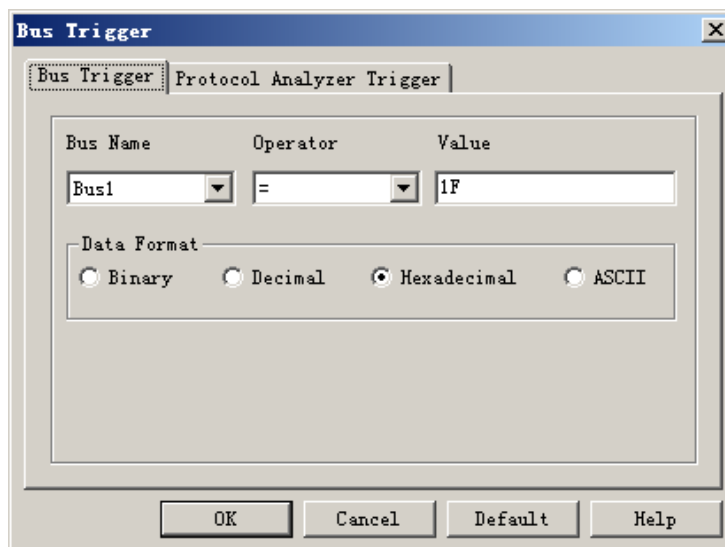

Fig 4-30 – Bus Trigger Setup
1. Highlight the Bus which will be triggered then click  icon or select **Bus Trigger Setup** from the Trigger of the Menu Bar, the dialog box as shown in Fig 4-30 will appear.
2. Set Binary, Hexadecimal, Decimal or ASCII as the Data Format of the Bus to represent the value (see Fig 4-30).